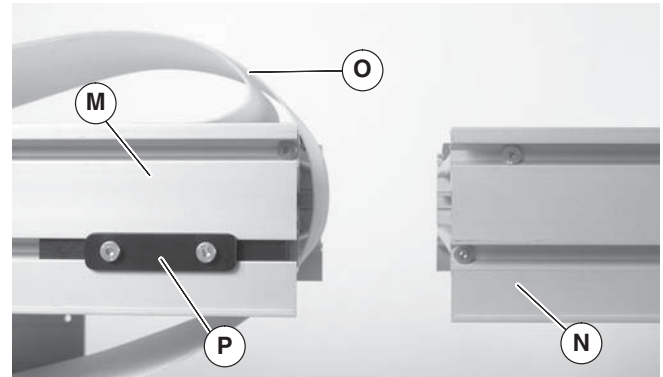

Figure 4
1. Locate conveyor sections (Figure 4, item M)